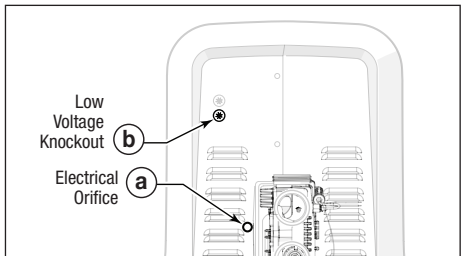

**Figure 9. Connect Microswitch and Actuator Wires**
7. Connect the blue and green wires to the blue and green actuator wires in the new VersaFlo, see *Figure 9 (a)*.
8. Connect the two pink wires to the microswitch in the new VersaFlo, see *Figure 9 (b)*.
9. Secure the bypass cover on the new VersaFlo using the three screws, see *Figure 9 (c)*.